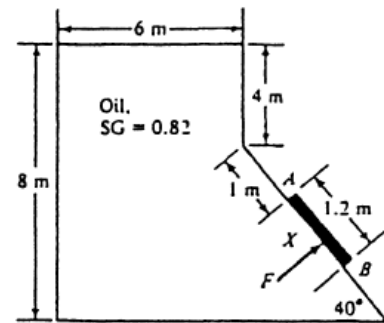

Fig. P2.51
2.51 Gate AB in Fig. P2.51 is 1.2 m long and 0.8 m into the paper. Neglecting atmospheric-pressure effects, compute the force F on the gate and its center of pressure position X .